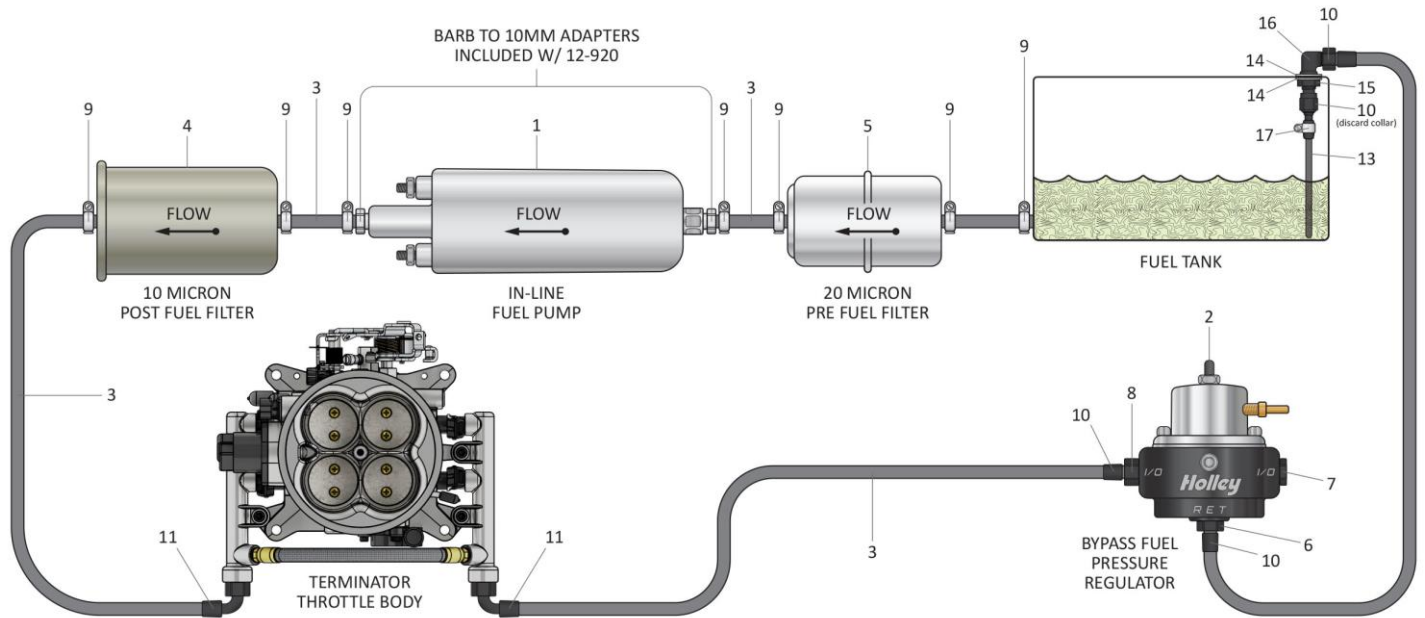

Figure 42
1. Use **Figure 42** below as a reference for the orientation and location of the fuel system components:
With the fuel pump, filters, and bulkhead fitting all in place. You are now ready to install the fuel lines. Some connections will use hose clamps (**Item 9**), while others will use AN hose ends (**Items 10 & 11**). These connections are noted in **Figures 42 & 44**. Be sure to read and thoroughly understand all steps, notes, and hose assembly instructions (**Section 27.5**) below before proceeding with the fuel line installation.